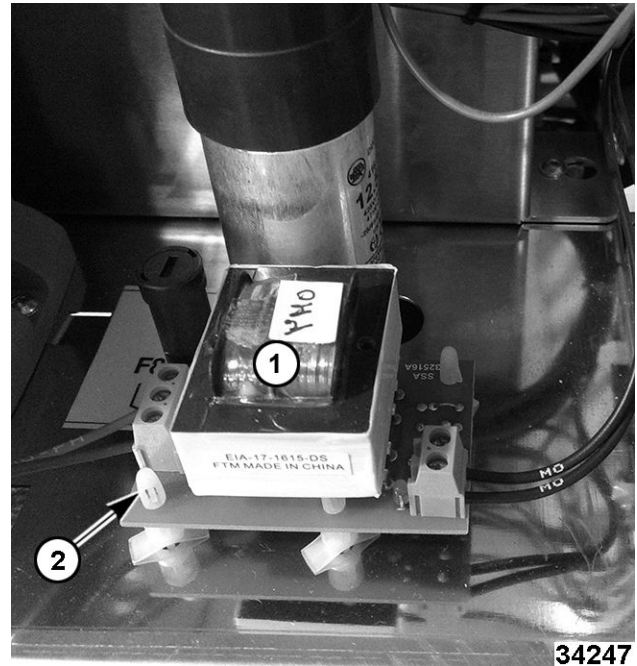

Fig. 17
2. Note and disconnect electrical cables from vent transformer (1, Fig. 17).
3. Depress plastic stand-off (2, Fig. 17) tabs and remove vent transformer and circuit board.